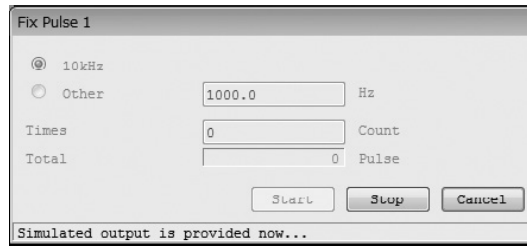

Fig.133
- ⑤ Click the "OK" button to cause the simulated output value to be outputted. While the simulated output value is being outputted, a message at the bottom of the window will indicate that the system is "creating simulated output", as shown in Fig. 133.